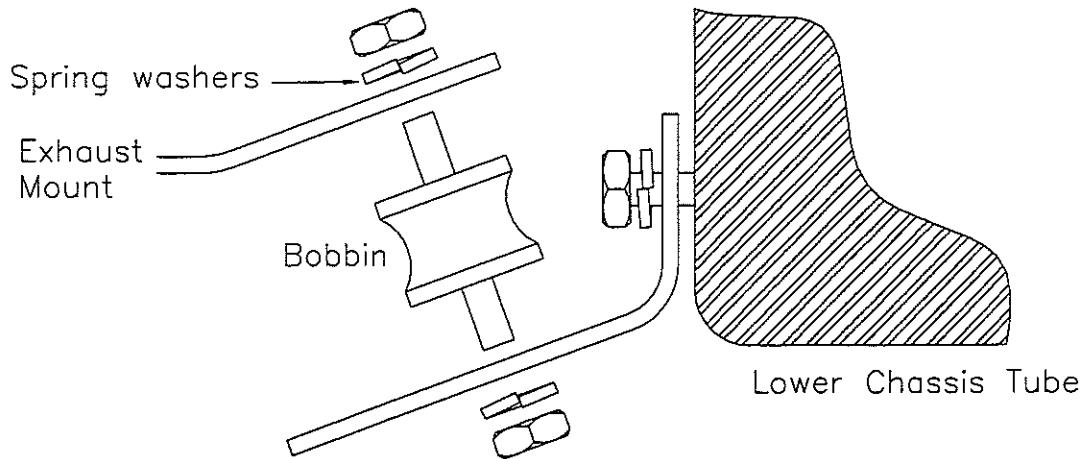

Figure 8.1 Exhaust Mounting
- c) Check that the threaded bush (at the lower left side of the car immediately in front of the rear wheel arch) is clear. Bolt the small angled bracket (see figure 8.1) into this using a  $\frac{5}{16}$ " UNF x 1" bolt. When the bracket is fitted it should point downwards with the longer side outwards. Attach the rubber bobbin on the top of this and tighten using a  $\frac{5}{16}$ " UNF nut and spring washer.